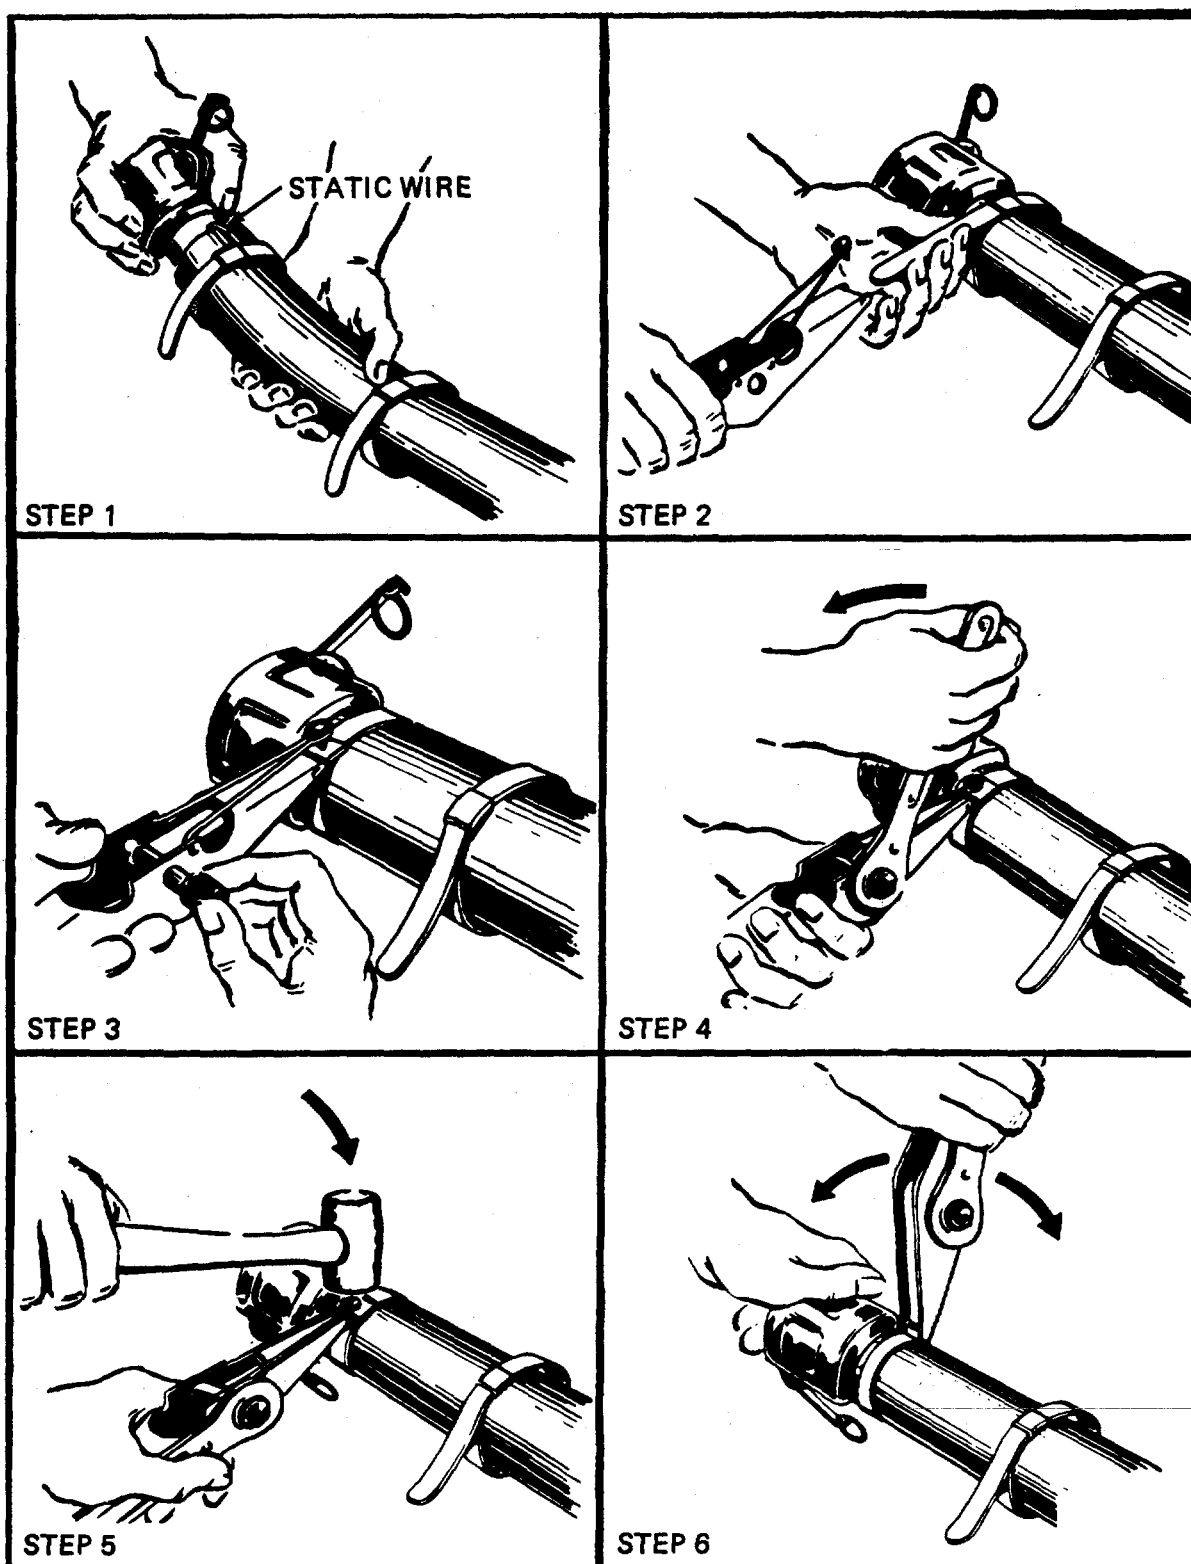

Figure 4-2. Clamp Installation Using Clamping Tool (Appendix C, Item 37).
(1) When using preformed hose clamps, use clamping tool (Appendix C, Item 37) and perform the following steps (a) through (h). (Refer to Figure 4-2.)